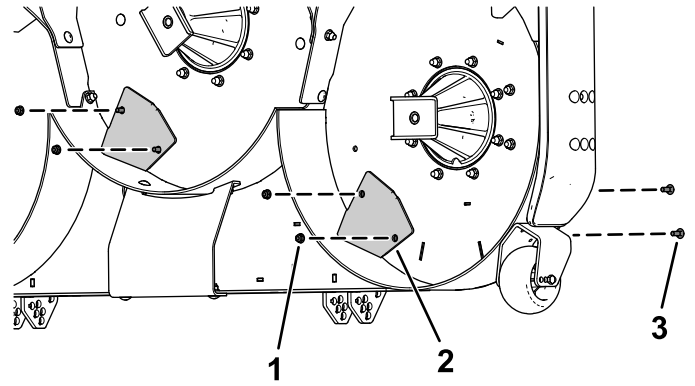

Figure 5
2. Secure the 2 kickers to the mower deck using 4 carriage bolts (5/16 x 7/8 inch) and 4 flange nuts (5/16 inch) as shown in Figure 5.